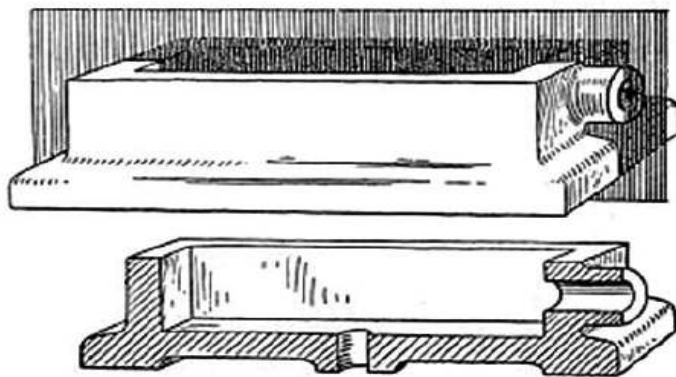

Figure 5
- Depending on the number of cutting planes, sectional views can be **simple with one cutting plane (Fig. 5)** or **complex with two or more cutting planes (Fig. 6)**.